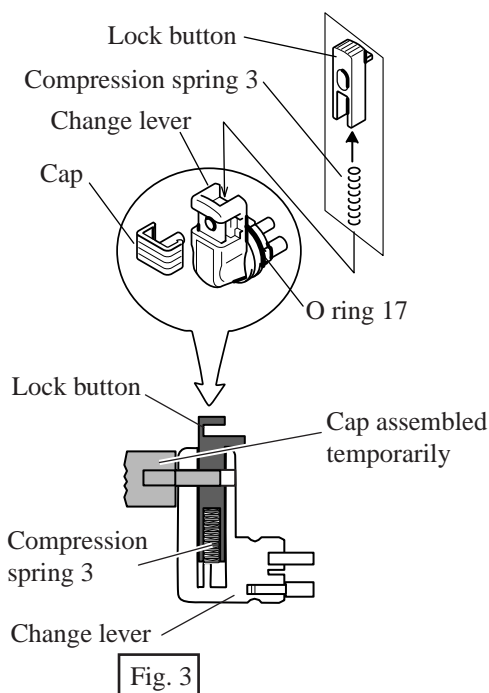

Fig. 3
2. Assemble compression spring 3 and lock button to change lever. And temporarily assemble cap to the position illustrated in Fig. 3 in order to stop springing off of lock button. Do not forget to assemble O ring 17. See Fig. 3.